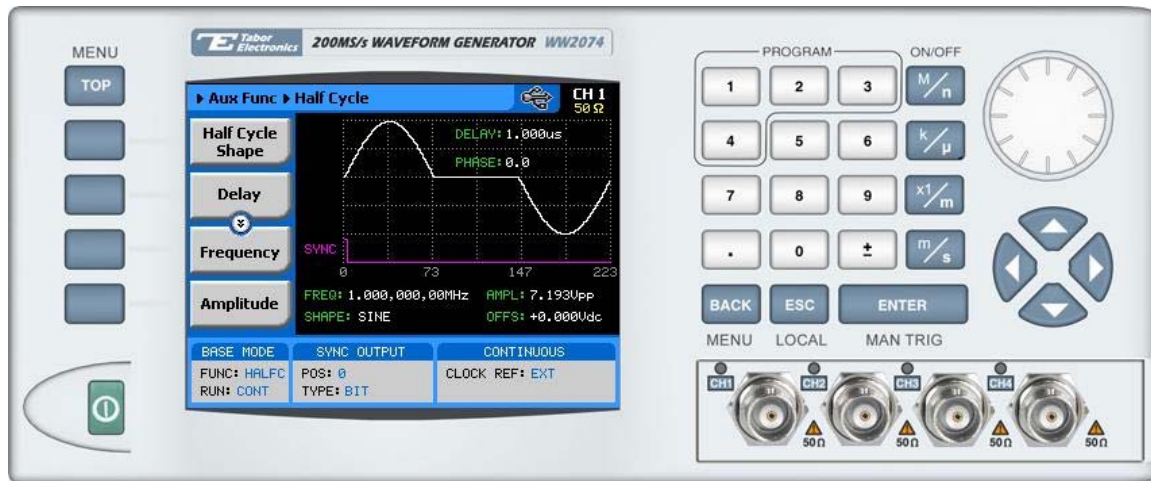

Figure 3-39, the Digital Pattern Menus
5. Press the Enter button to select the half cycle function Figure 3-39 shows the half cycle panel and menus.